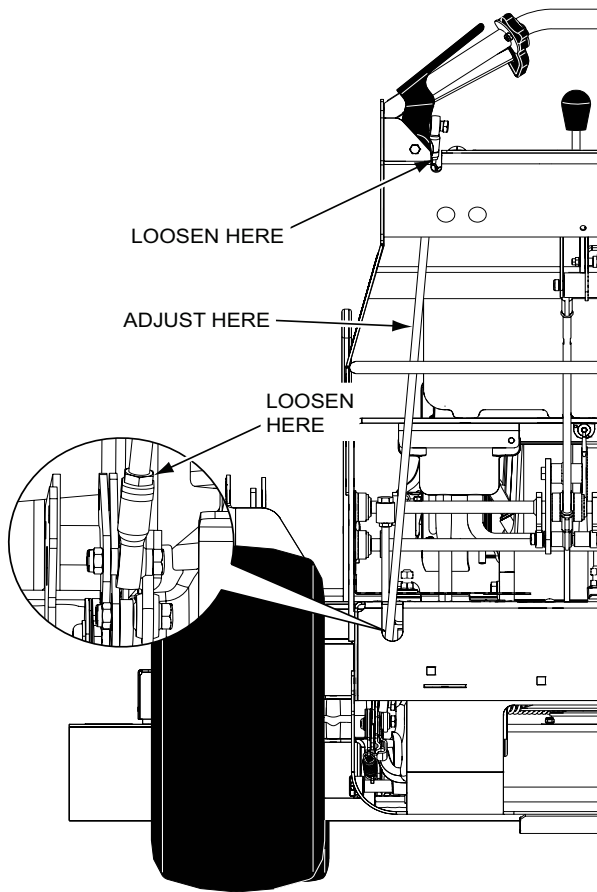

Figure 6-3. Control Rod Adjustment
3. Loosen the control rod jam nuts. See Figure 6-3.